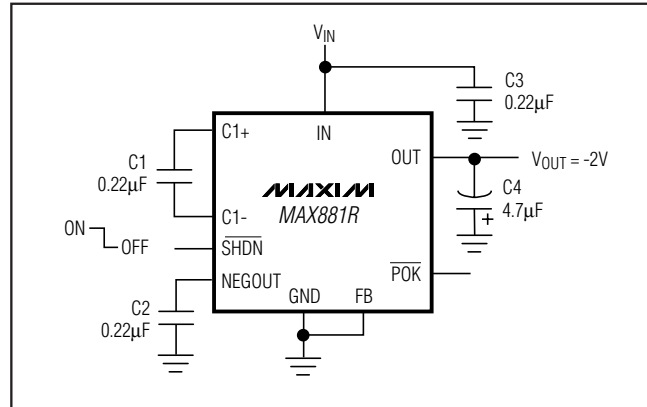

Figure 3a. Standard Application Circuit for Minimum Capacitor Values
**OUTPUT NOISE AND RIPPLE (CIRCUIT OF FIGURE 3a)**
**OUTPUT NOISE SPECTRUM (CIRCUIT OF FIGURE 3a)**
C1, C2, and C3 should be  $0.22\mu F$  capacitors with less than  $0.4\Omega$  ESR. C4 should be a  $4.7\mu F$  capacitor with less than  $0.1\Omega$  ESR. Larger capacitor values can be used ( $C1 = C2 = C3 = 1\mu F$ ,  $C4 = 10\mu F$ ) to reduce output noise and ripple ( $1mV_p-p$ ), at the expense of cost and board space. All capacitors should be either ceramic or surface-mount chip tantalum (Figures 3a and 3b).